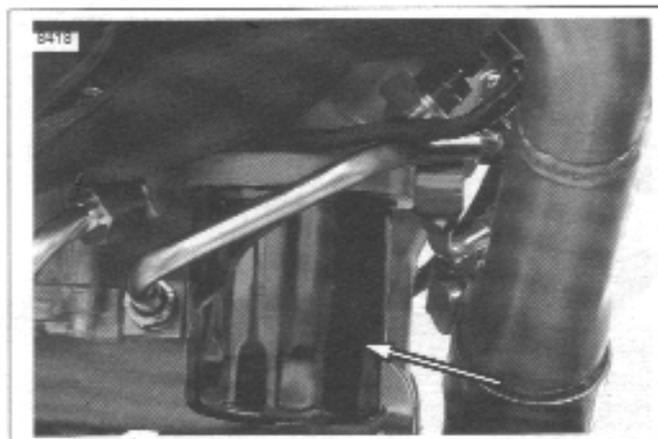

Figure 1-5. Oil Filter
2. See Figure 1-5. Remove oil filter using pliers or belt type OIL FILTER WRENCH.